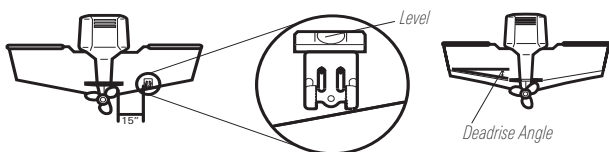

Figure 12
**NOTE:** The hydrodynamic shape of your transducer allows it to point straight down without deadrise adjustment (Figure 12).